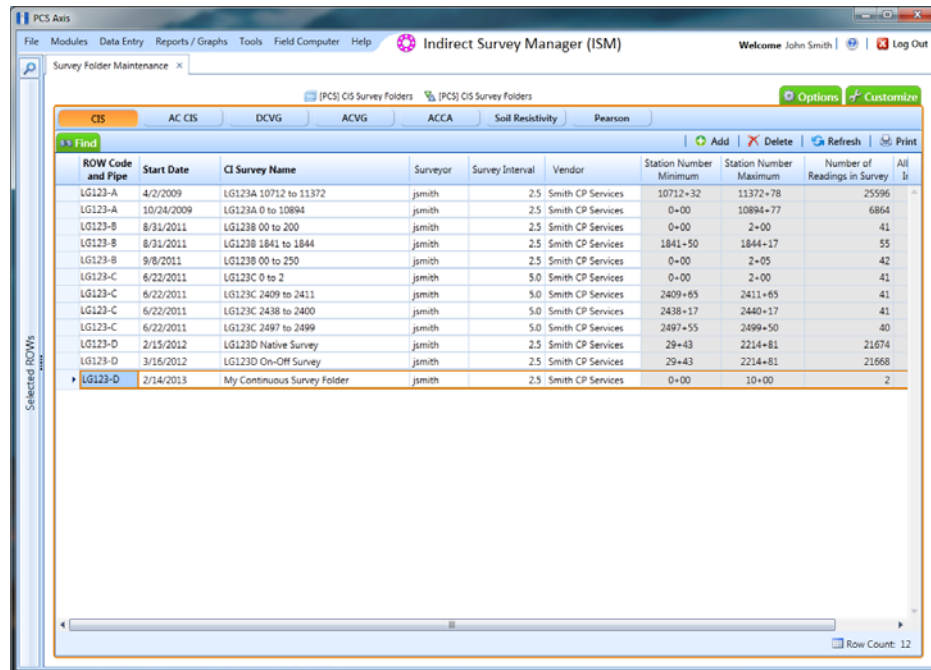

Figure 5-7. Survey Folder Maintenance
- 5 Select a pipeline segment in the grid that includes the continuous survey folder you want to delete. For example, the row of records for pipeline segment *LG123-D* are selected in the following figure (Figure 5-7, page 143).
- 4 Click a button labeled with the type of continuous survey that you want to add a layout theme. For example, click the **CIS** button  to add a layout theme for a continuous survey associated with close interval survey readings (Figure 5-7, page 143).
- 4 Click a button labeled with the type of continuous survey that you want to add a sorting theme. For example, click the **CIS** button  to add a sorting theme for a continuous survey associated with close interval survey readings (Figure 5-7, page 143).